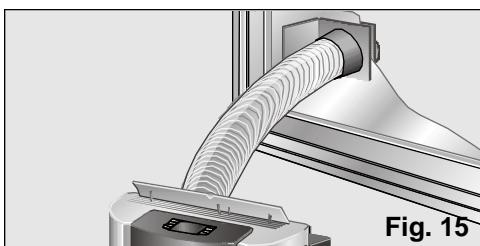

Fig. 15
- If permanent installation is to be performed through the window, then it is only necessary to use the transparent end piece on the accessory. A 10.5-cm diameter hole needs to be cut in the glass, Fig. 15.